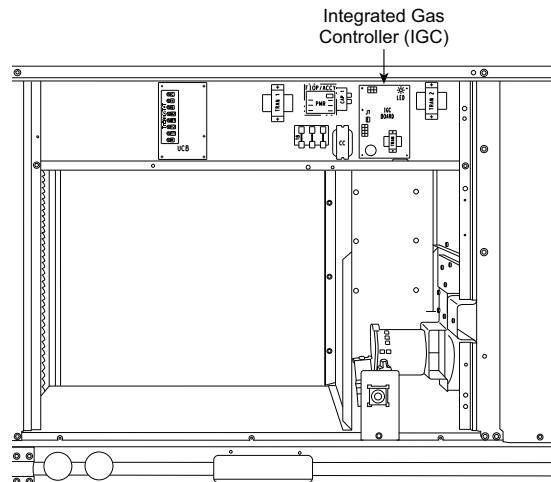

Fig. 60 – Unit Control Box/IGC Location
8. Remove igniter wires and sensor wires at the Integrated Gas Unit Controller (IGC). (See Fig. 60.)
Unit is equipped with a direct spark ignition 100% lockout system. The Integrated Gas Unit Controller (IGC) is located in the control box (see Fig. 60). The IGC contains a self-diagnostic LED